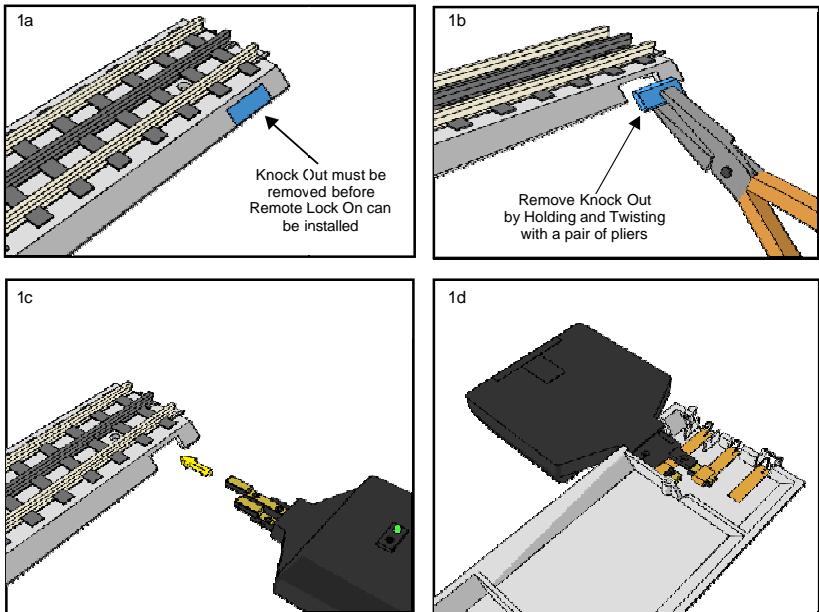

Fig. 1a-1d: Installation of Remote Lock On
3. Each RealTrax[®] segment (excluding switches and uncoupling sections) has at least one knock-out tab in the roadbed (on either end of the segment) that can be removed to reveal an opening for the lock-on. See figures 1a and 1b for how to remove the tabs.